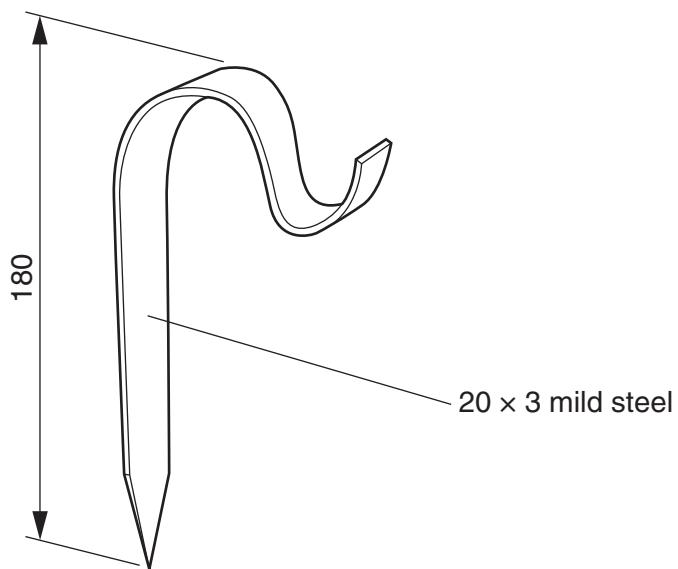

Fig. 2
- 2 Fig. 2 shows a hosepipe support for use in a garden.
- (c) Use sketches and notes to show a design for a bending jig that could be used to produce batches of the hosepipe support shown in Fig. 2.